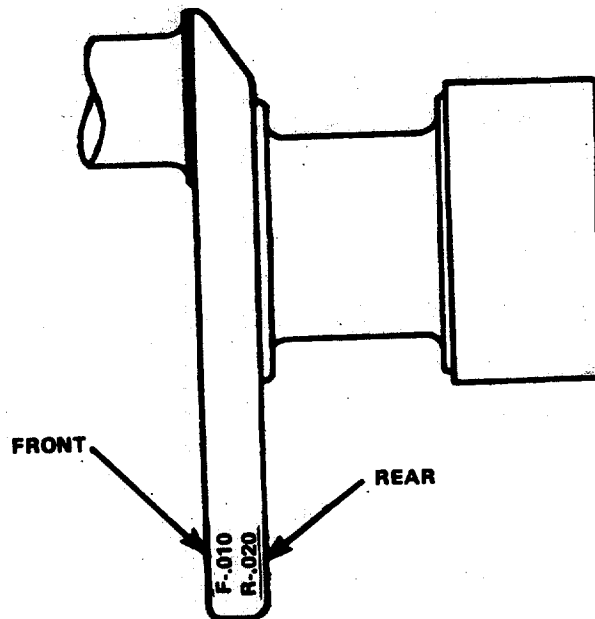

FIGURE 4-48. Rear Counterweight Markings.
- (6) Put a mark for the oversize trust bearing on the rear counterweight (FIGURE 4-48) .
- (7) Inspect the crankshaft key for damage. Replace as required.